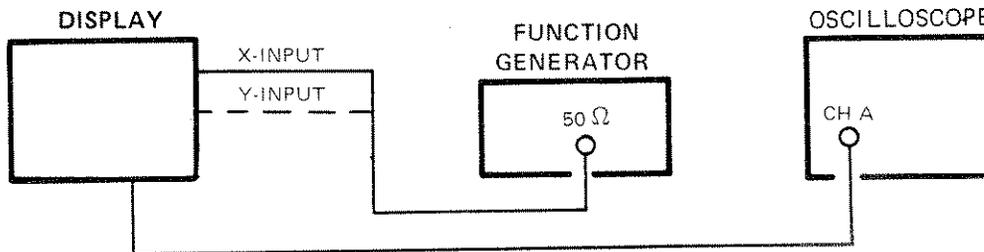

Figure 5-4. Input Attenuator Adjustment Test Setup
- b. Connect equipment as shown in figure 5-4.